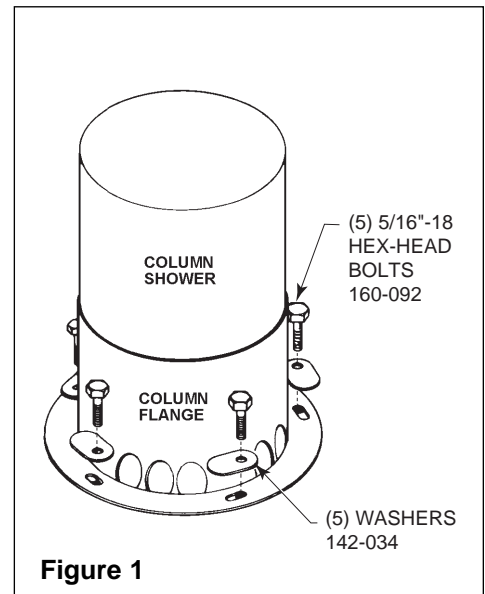

Figure 1
2. Bolt the column shower to the drain with the five bolts (removed in procedure #1) and oval washers provided (see Figure 1).
5. Bolt the shower to the drain with the five bolts (removed in procedure #1) and oval washers provided (see Figure 1).